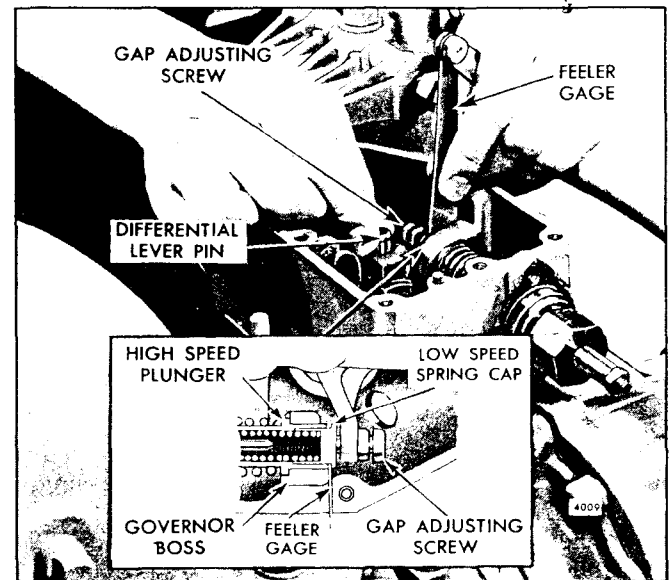

Fig. 2 - Checking Governor Gap
6. Check the gap between the low speed spring cap and the high speed spring plunger with a .0015 " feeler gage. If the gap setting is incorrect, reset the gap adjusting screw (Fig. 2). If the setting is correct,